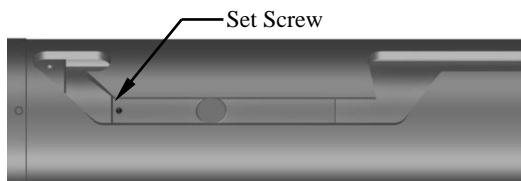

Fig. 6
L-2.18) Screw set screws (35) into J-pin bottom sub (23). Move J-body (20) as needed (Fig. 6).